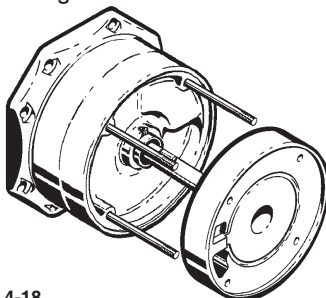

Figure 4-18
- c. Slide the channel ring into place with the water channel facing up. This time, however, orient the large inlet opening on the side opposite of the pump inlet. Refer to Figure 4-18.